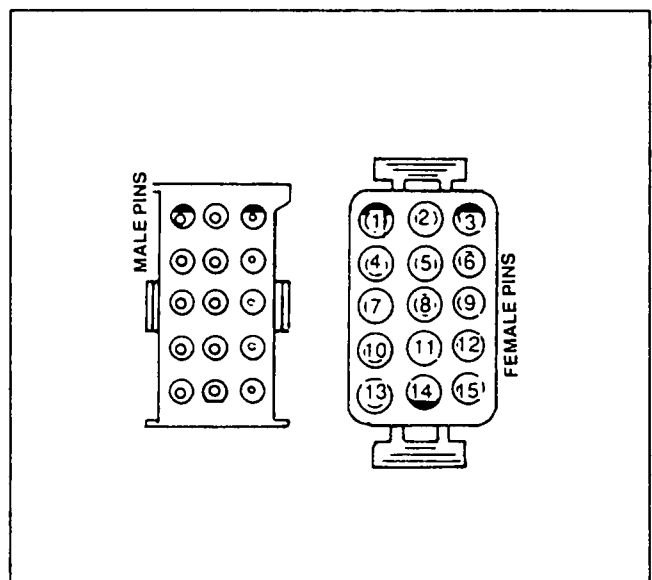

Figure 6. The 15-Pin Connector Plug
2. Disconnect the mating halves of the 15-pin connector plug in the AC connection (lower) panel. Wire No. 178 connects to Pin 14 of this plug and Wire No. 183 to Pin 15. See Figure 6.